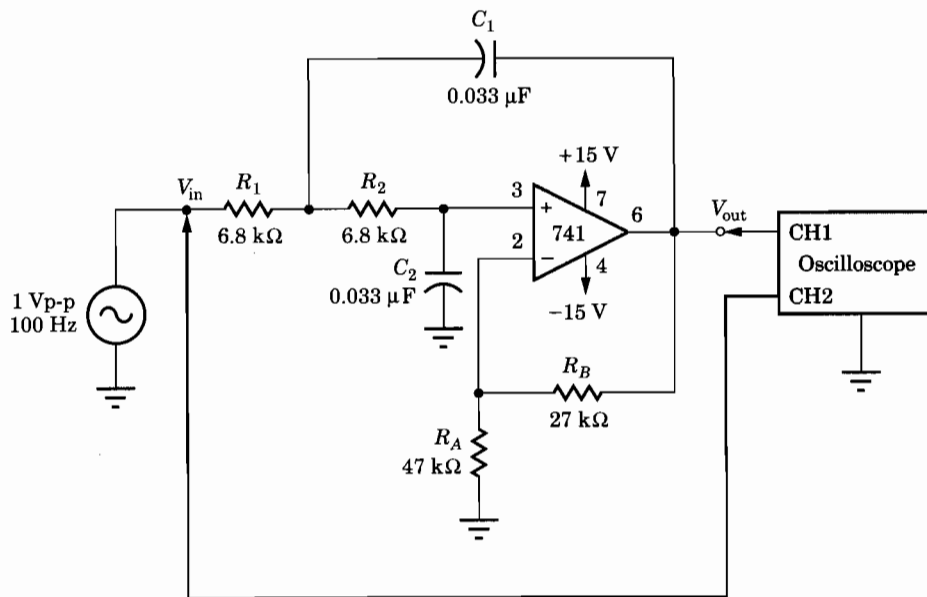

FIGURE 39-1 Schematic diagram of circuit.
1. Wire the circuit shown in the schematic diagram of Figure 39-1.
1. For the low-pass filter circuit of Figure 39-1, if R_1 and R_2 are $10\text{ k}\Omega$, the critical frequency is approximately